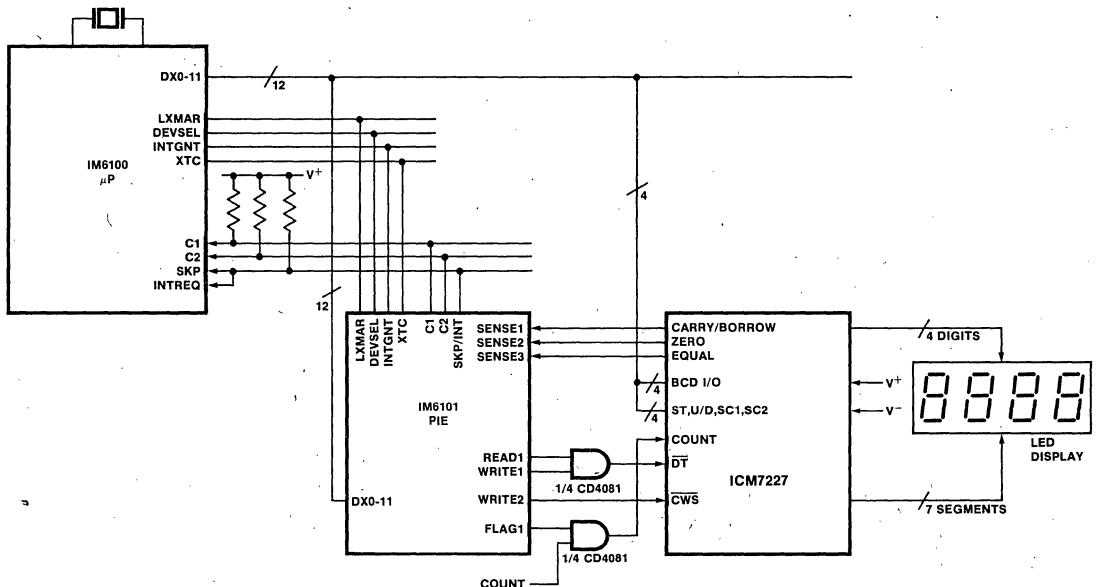

Figure 14: IM6100 Interface
9. MICROPROCESSOR INTERFACE-ICM7227 (Figure 14)